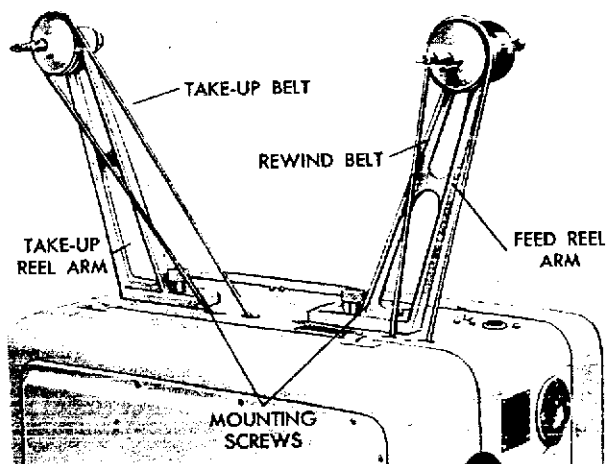
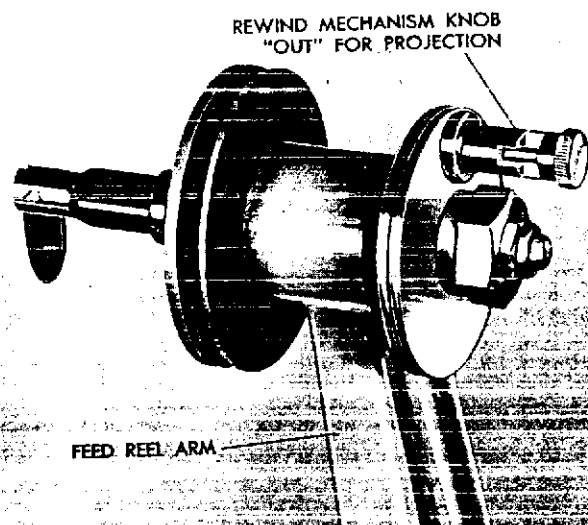

Figure 9. Reel Arms and Spring Belts in Operating Position
Figure 10. Projection Position of Feed Reel Arm Rewind Knob
a. Mount the take-up reel arm and the feed reel arm to the projector as shown in figure 9. For projection, the rewind mechanism knob on the feed reel arm (figure 10) must be set in the OUT position (engaged in the short slot). This knob is set in the IN position (engaged in long slot) only when rewinding film. Projecting film with the rewind mechanism knob in the IN or rewind position exerts extreme tension on the film at the feed sprocket, a condition which will cause damage to the film.
b. Loop the rewind belt, without a twist, over the pulley on the feed reel arm. Loop the take-up belt, without a twist, over the pulley on the take-up reel arm. Refer to figure 9. Make certain that both belts are looped around their respective pulleys within the projector.
b. Be sure the rewind mechanism knob (figure 10) on the projector feed reel arm is in its OUT position and engaged in the short slot.